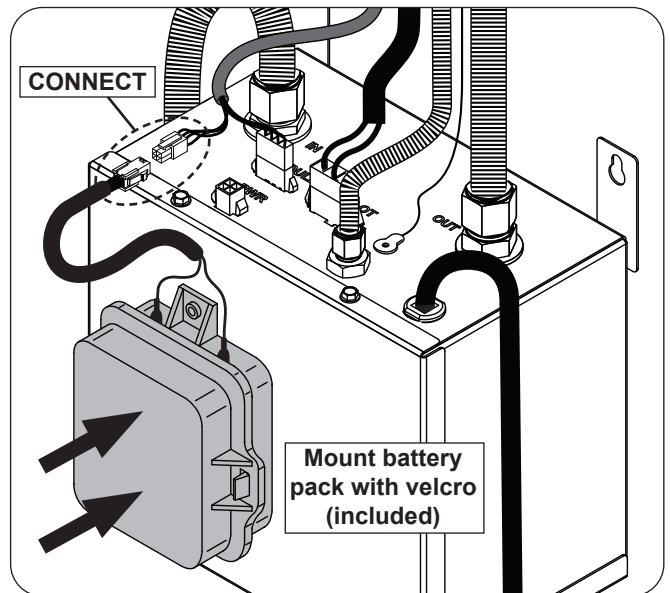

Fig. 36-2 Mount and connect battery pack
4. Peel the velcro protective plastic and mount the battery pack to the side of the control box (optional). See Fig. 36-2.
5. Connect the battery pack wire to the power source connector wire that was previously disconnected (see Fig. 36-2).